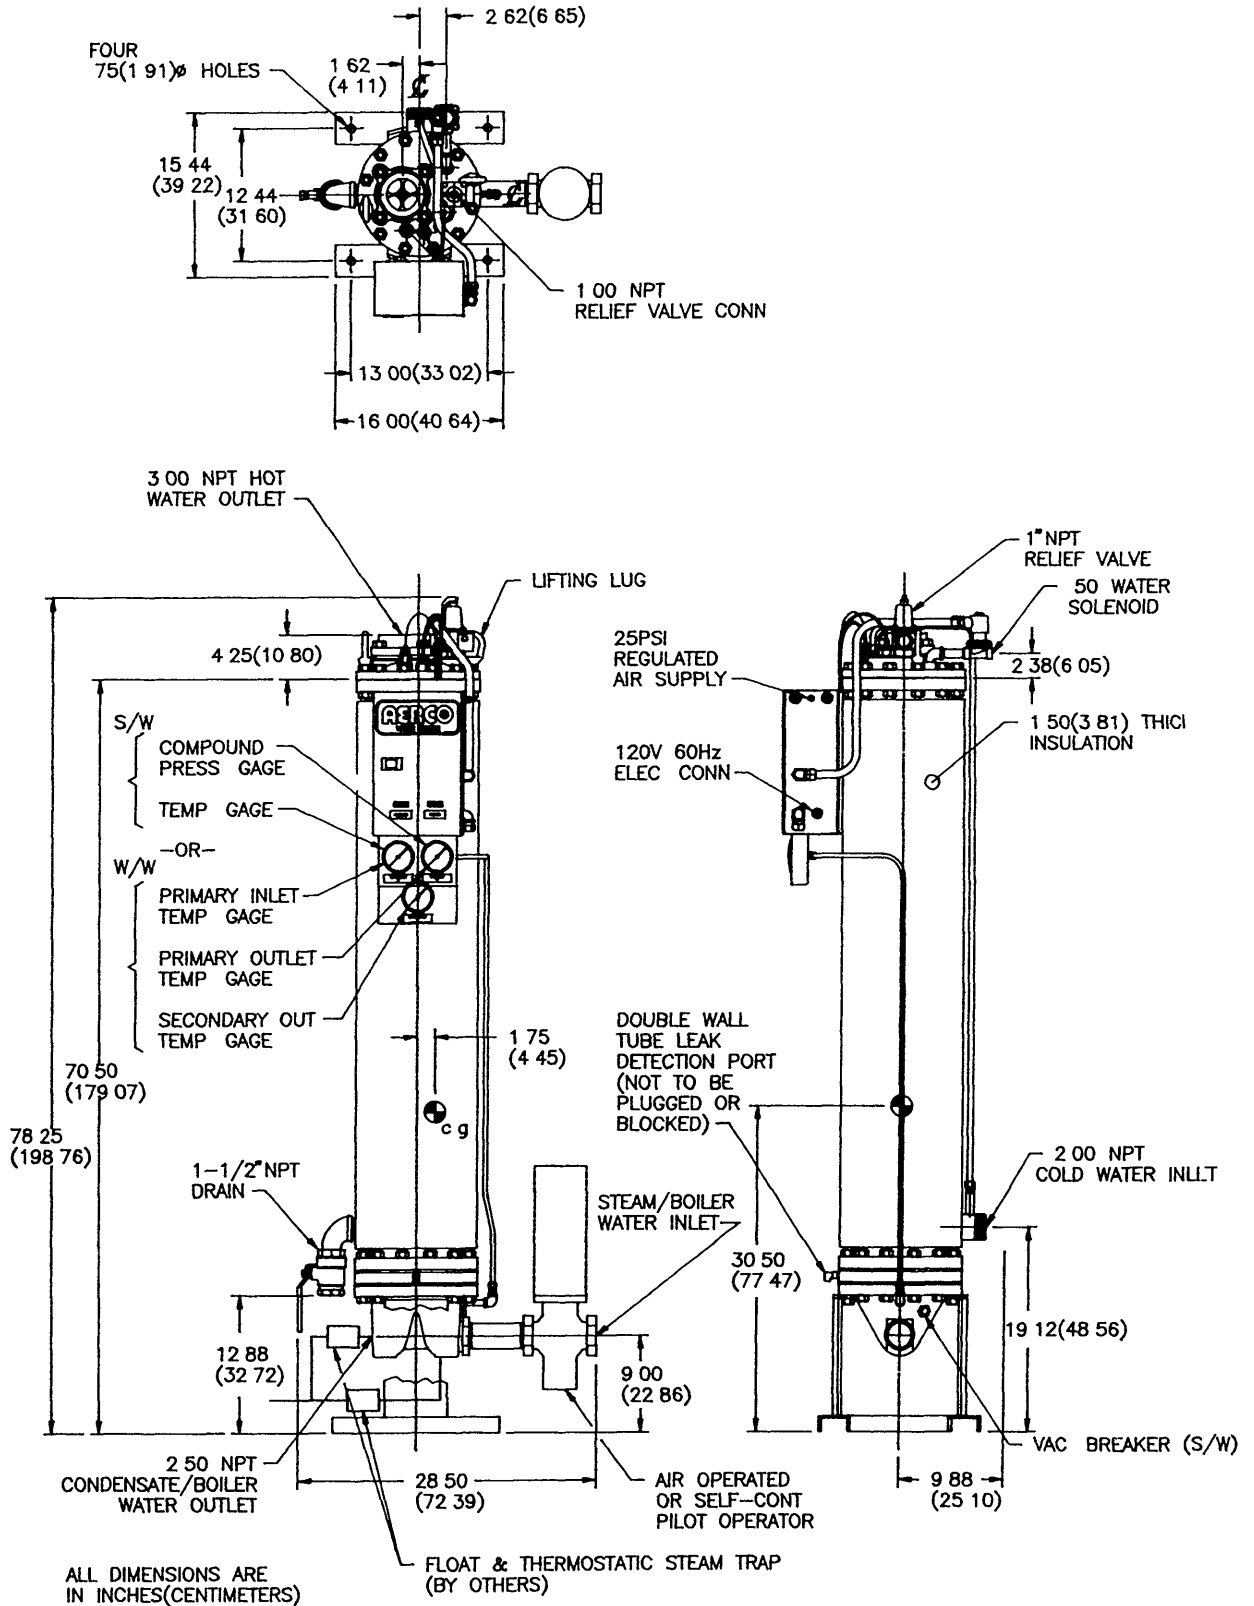
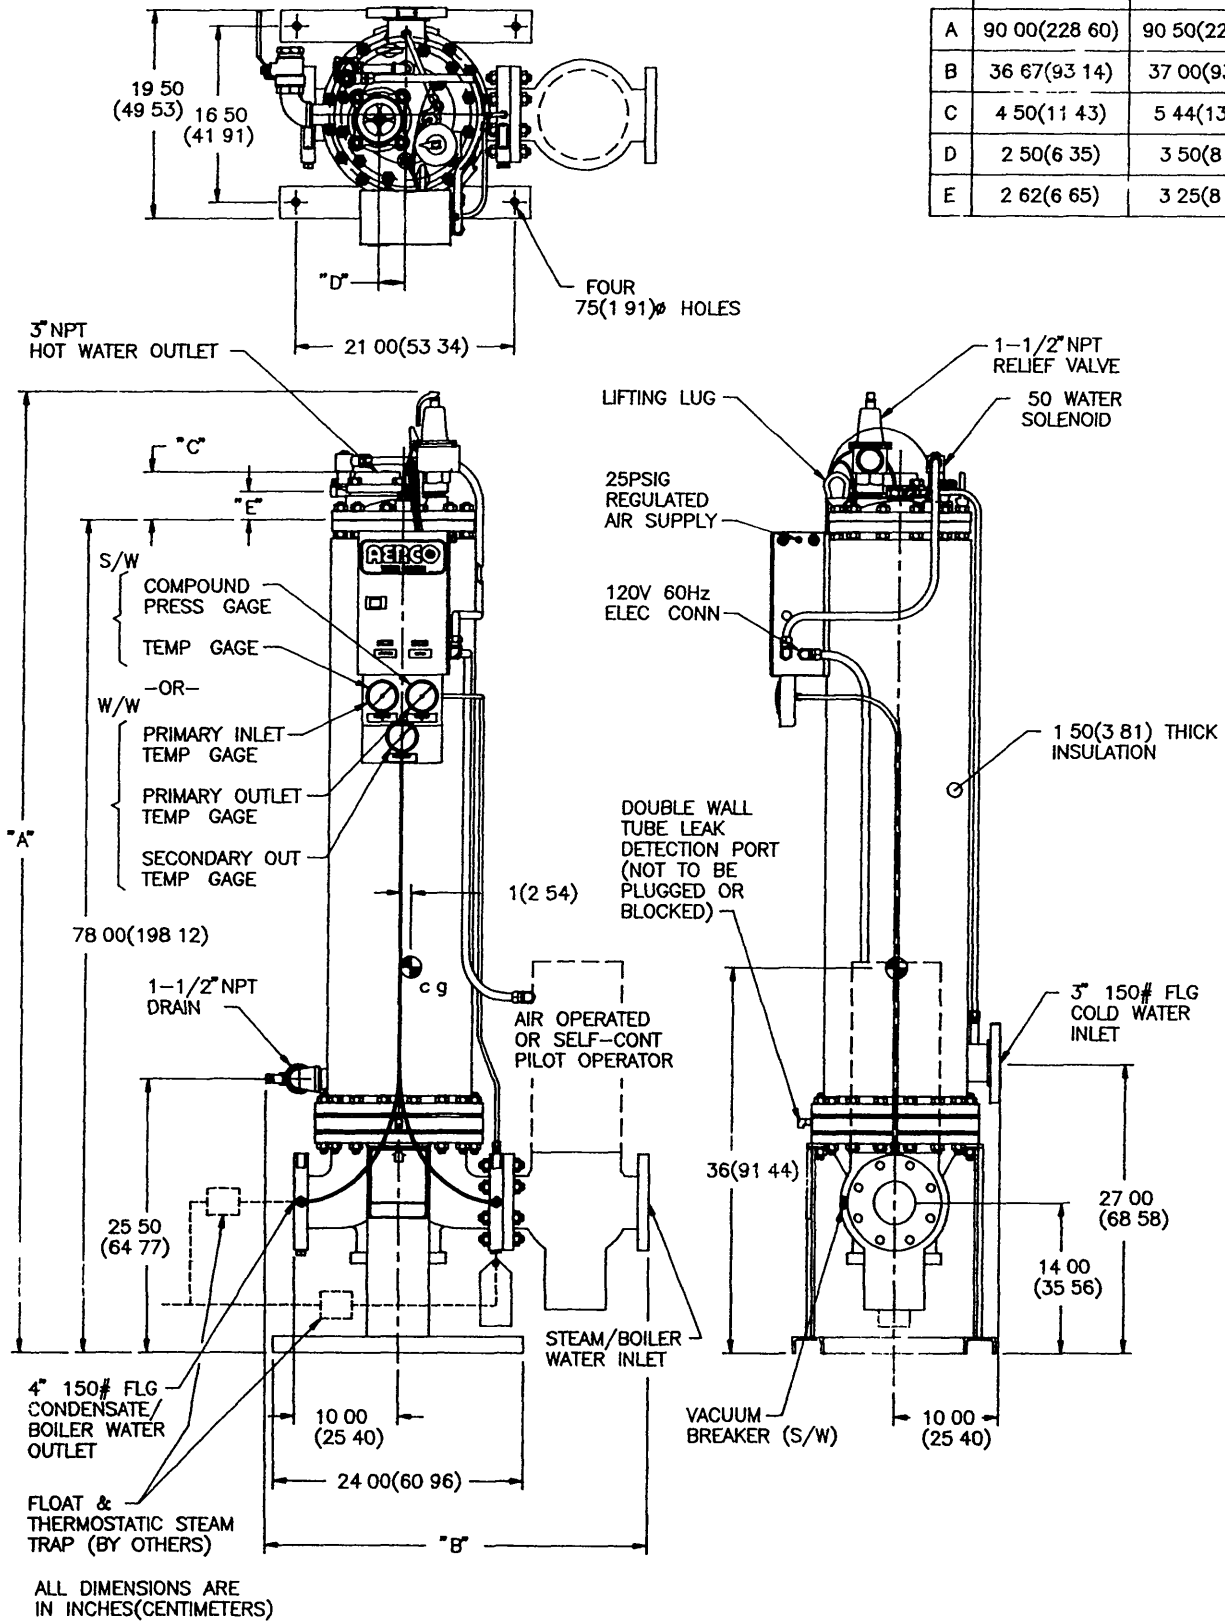

Figure HE-106-1 - Dimensions for AERCO Double-Wall Heater, Model DW-24
Figure HE-106-2 -- Dimensions for AERCO Double-Wall Heater, Models DW-45 & DW-68
Accessories included in the AERCO DW-PLUS Heater Package Assembly are (see Figures HE-106-1, HE-106-2, HE-106-13, and HE-106-15)
- 1 Dimensions for an AERCO Double-Wall Heat Exchanger Model DW-24 are shown in Figure HE-106-1, and for Models DW-45 and DW-68 are shown in Figure HE-106-2
- b For Heater connection types, sizes, and exact locations, see Figure HE-106-1 or HE-106-2
- e If the Heater is furnished with the Control Valve not connected as shown in Figure HE-106-1 or HE-106-2, the piping between the Control Valve and the Heater connection should be as short as possible, with sufficient unions or flanges included to allow easy removal of the Valve
- 7 If the Heater is not furnished as a factory-packaged unit as shown in Figure HE-106-1 or HE-106-2
- d If an Over-Temperature Limit System is furnished, install the Solenoid Valve(s), the Temperature Switch, the Pilot Light and wiring in accordance with the AERCO instruction furnished with the System See Figure HE-106-1 or HE-106-2 for the location of the water-diverting Solenoid Valve